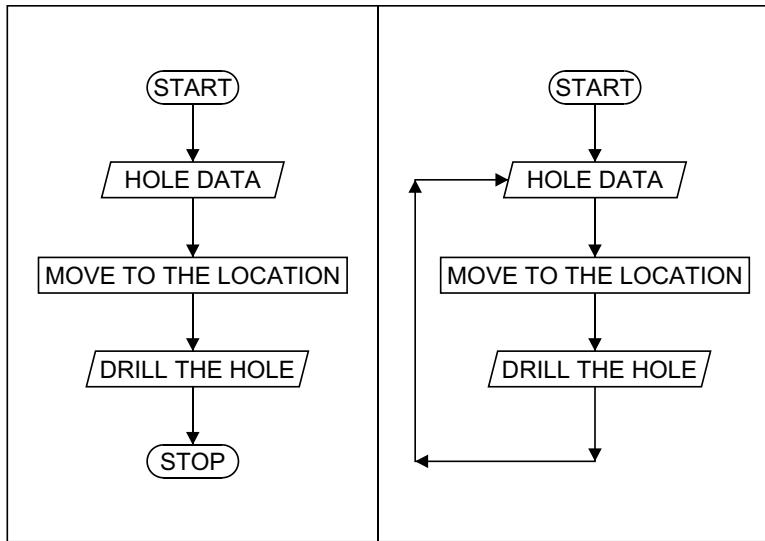

Figure 20
In the next stage, the same example will be explored, this time to drill more than a single hole. The above *top-down process* is not quite sufficient and a different technique has to be used. Before thinking of a technique, think of a process. *What has to change?* We do *not* want to always start and stop after drilling the first hole, do we? We want to input the next hole location (item 2), move to that location (item 3), drill the hole at that location (item 4), and - we want to repeat these three steps until *all* holes are done. Hopefully, the description was clear enough, but a graphical representation - using a simple flowchart - shows the comparison of both methods (*Figure 20*).
The two comparable flowcharts indicate the drilling process in principle. However, there is a major and a very serious problem with the repeated structure. *There is no way out!* The repetition shown at the right side of *Figure 20* has no provision to stop the processing - *the loop is not stopped - it is not controlled* - logically, it runs forever!
It is extremely important to provide an *exit* from a loop, when certain conditions are satisfied, for example, when the last hole is drilled. Failure to provide an exit from a loop will cause an *endless* or *infinite loop*. Infinite loops are the most common causes of problems in macro loops. Terminating a loop is always determined by a specific condition. This condition has to be part of the loop, based on the job requirements, with the provision to branch out of the loop, when the condition becomes *false*. The repetitive flowchart shown in *Figure 20* has to be modified.